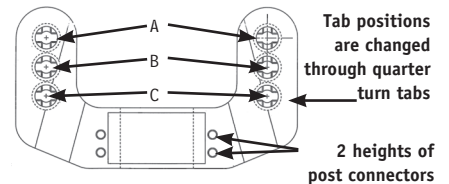

Figure 1
3. Pop the black colored "U Channel" (Figure 1) away from the black inner liner. There is one "U Channel" in the front of the helmet and one in the back of the helmet.